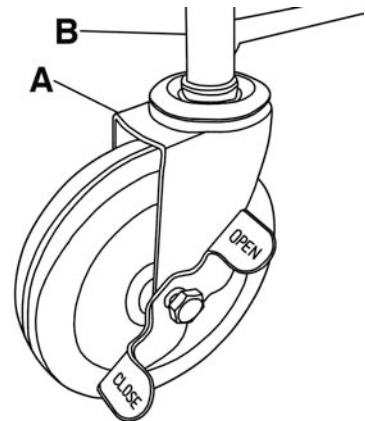
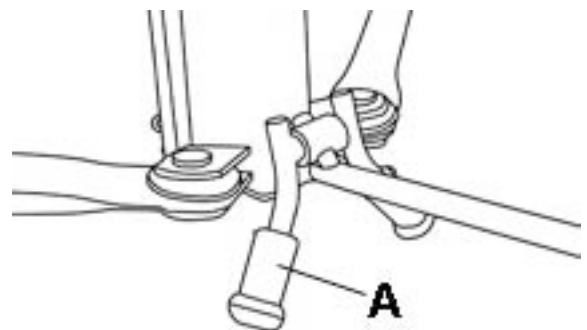

FIGURE 2
FIGURE 3
2) Install the locking casters (A) Fig.2 at the end of each leg (B).
3) To prevent the tripod base from rolling backward during the remaining assembly steps, position the locking tabs of the casters to the "close" position as shown in Fig.2 and lower the backstop (foot brake) (A) Fig.3.
- 1) Lower the foot brake so the drywall lift won't roll backwards. See Fig.3.